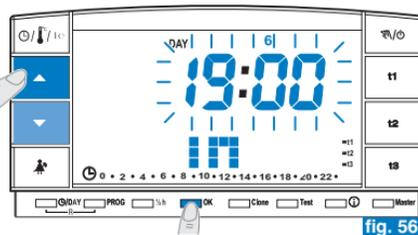
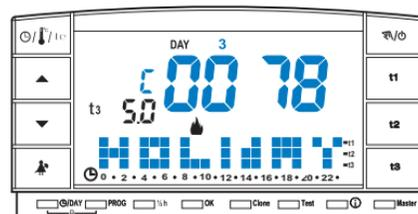

fig. 56
fig. 57
- The display will show (blinking) the hour in which the countdown should end (return home). Using the ▲▼ keys, set the hour confirm with **OK** (fig. 56 on the next page).
- After data has been entered and you have confirmed with **OK** (example in fig. 56), **two different messages** (depending on the data entered) can be shown on the display:
- Press **OK** (example in fig. 56) and the chronothermostat will begin a countdown and the program will keep the **t3** Absence temperature set (factory setting 5°C in "Winter" and 33°C in "Summer", both adjustable as per paragraph 5.6) until the end of the programmed hour. The display will show the number of hours remaining until the end of the program, plus the message **HOLIDAY** (example in fig. 57).
- Press **OK** (example in fig. 56) and the chronothermostat will return to the program that was operating before data entry in program **P 04**, as it awaits start-up of this latter program.
After this time, the chronothermostat will begin a countdown and the program will keep the **t3** Absence temperature set (factory setting 5°C in "Winter" and 33°C in "Summer", both adjustable as per paragraph 5.6) until the end of the programmed hour. The display will show the number of hours remaining until the end of the program, plus the message **HOLIDAY** (example in fig. 57).